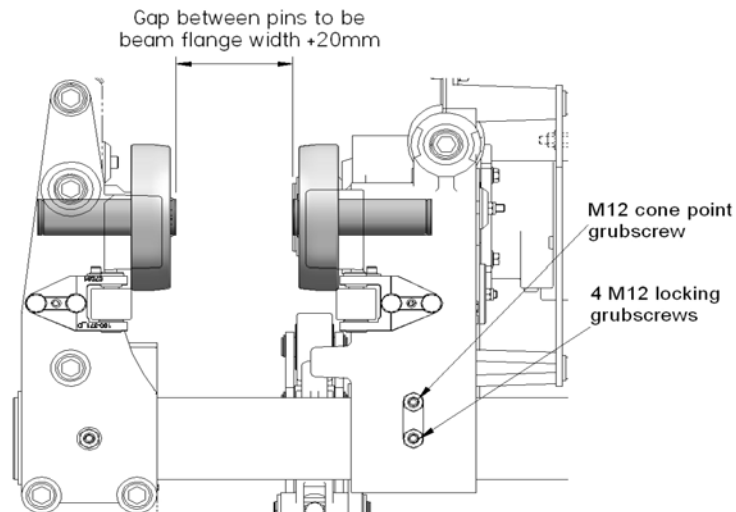

Figure 9 – Installing the Low Headroom Trolley
- Open the trolley frame until the gap between the ends of the wheel axles is at least 20mm wider than the width of the runway flange (see Figure 9). Do not remove the circlips on the ends of the legs.